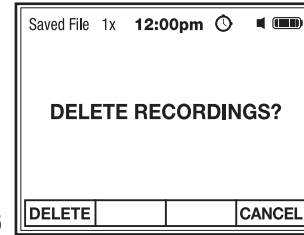

Fig. 15
7. Use the soft keys to DELETE recording or CANCEL and return to Saved Recordings without deleting (Fig. 15).